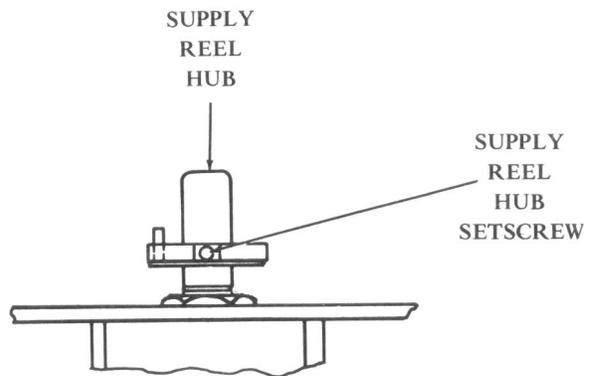

Figure 5 - Supply Reel
- (1) Remove the top plate assembly (2.01) from the baseplate, and the tape drive mechanism (2.03) from the top plate assembly.
- (2) Loosen supply reel hub setscrew (TP301477) (Figure 5) and remove hub.